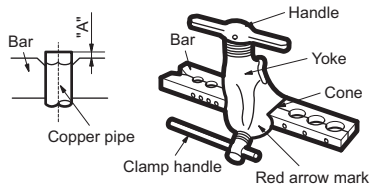

**Fig. 33 – Pipe Cutting**
- b. Cut the pipe, with a pipe cutter, at 90 degrees (see Fig. 33).